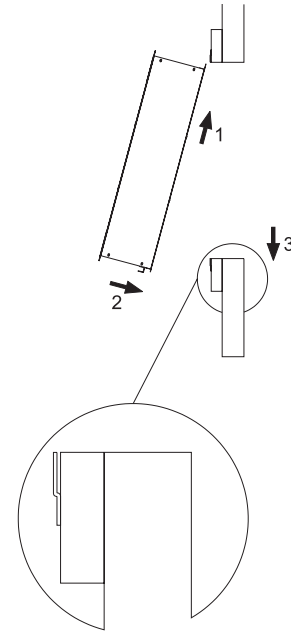

Figure 8
2. More than one person will be needed when mounting the larger light traps in the opening of the wall. Slide the light trap top mounting flange (wide flange) into the top mounting bracket until contact is made with the bracket and the housing. The bottom flange will now clear the bottom bracket and can be pushed in toward the building. The bottom flange will slide in behind the bottom bracket (see Figure 8).